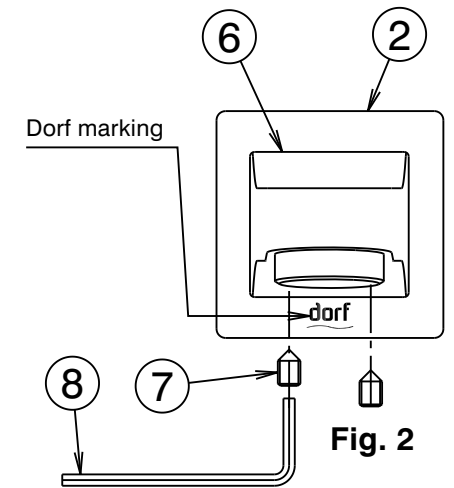

Fig. 2
- 1) Check that threaded nipple (1) is the correct length, as shown. Apply thread tape to the thread
Important: Care must be taken that thread tape cannot become dislodged and block the flow regulating device, causing a reduction in water flow. Slide cover plate (2) onto threaded nipple (1). Screw adaptor (3) onto threaded nipple (1) using a 10mm allen key (5⁺) until cover plate (2) is held securely against wall/tile face and the 'Dorf' marking is at the bottom, as shown in Fig. 2. DO NOT OVERTIGHTEN. Apply suitable lubricant to 'O'Rings (4) on adaptor (3).
- 2) Fit the wall basin outlet (6) onto spigot of adaptor (3), then push it firmly against the wall cover plate (2) while tightening grub screws (7) using the 2.50mm allen key (8) provided. Take care that the top face of the basin outlet is horizontal before tightening screws (7).